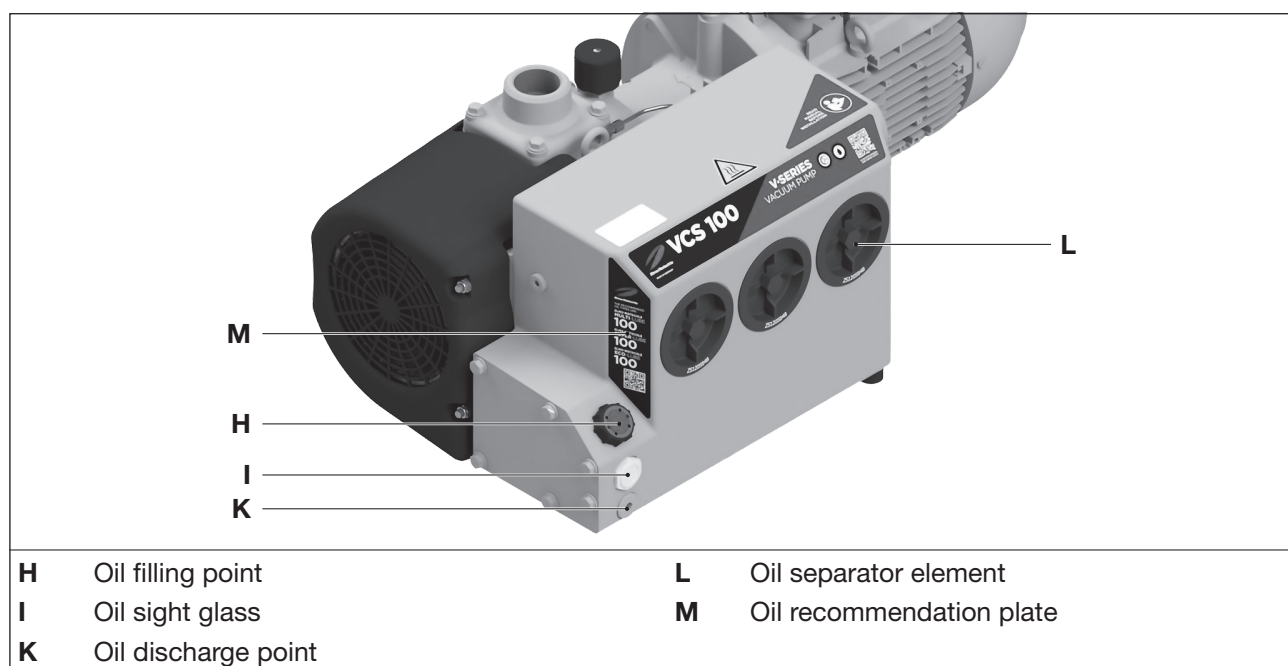

Fig. 7 Oil change and de-oiling
As operating agent, we recommend Elmo Rietschle oils, see oil recommendation plate (Fig. 7/M) as well as Tab. 3 on page 32:
- b) Open the cap of the oil filling point (Fig. 7/H) and refill oil until it reaches the upper edge of the sight glass (Fig. 7/I).
- b) Open the catch of the oil filling point (Fig. 7/H), open the oil discharge point (Fig. 7/K) and completely discharge the used oil.
- c) Close the oil discharge point (Fig. 7/K) and fill in new oil through the oil filling point (Fig. 7/H).
- d) Check the oil level in the sight glasses (Fig. 7/I).
- Unscrew oil separator elements (Fig. 7/L) with a ring spanner (width across flats 19 mm) counter-clockwise.